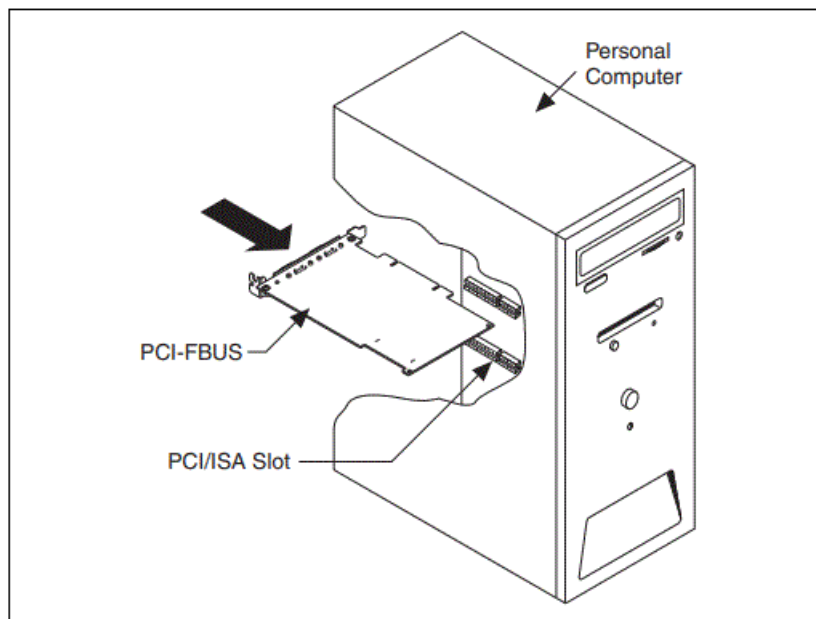

Figure 1. Installing the PCI-FBUS Card
4. As shown in Figure 1, insert the PCI-FBUS card into any unused PCI slot with the Fieldbus connector protruding from the opening on the back panel. Make sure all pins are inserted an equal depth into the connector. Although it might be a tight fit, do not force the card into place.